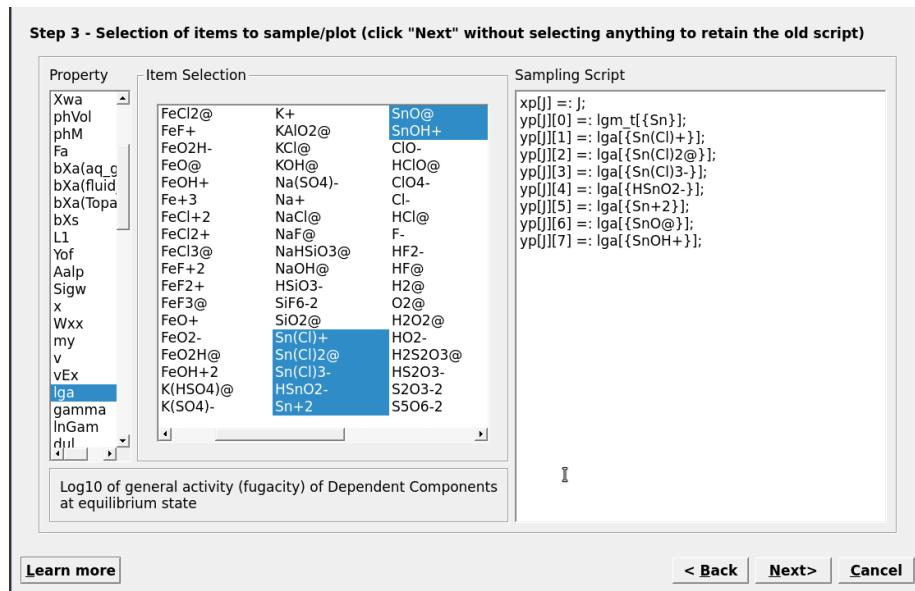

Figure 4.13: Sampling dialog in the Process wizard for selecting the Sn species to be plotted.
- In the following window select the sampling parameters. Here we will choose log of total dissolved Sn (lgm_t, molality) and log activity (lga) of the aqueous Sn species as shown in Figure 4.13.